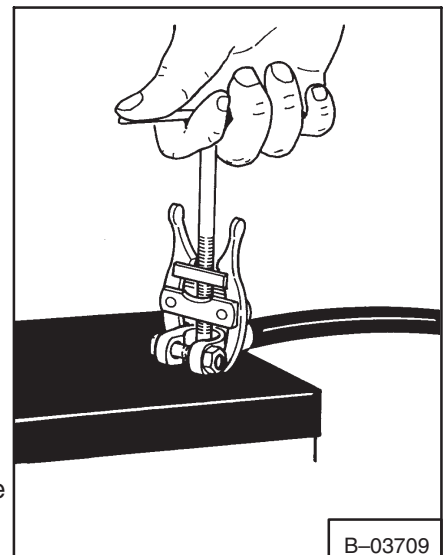

Fig. 1-36 Removing Cables
1. Remove the battery cables (Fig. 1-36). Remember the position of the positive terminal and the negative terminal so you can connect the cables correctly after the new battery is installed.